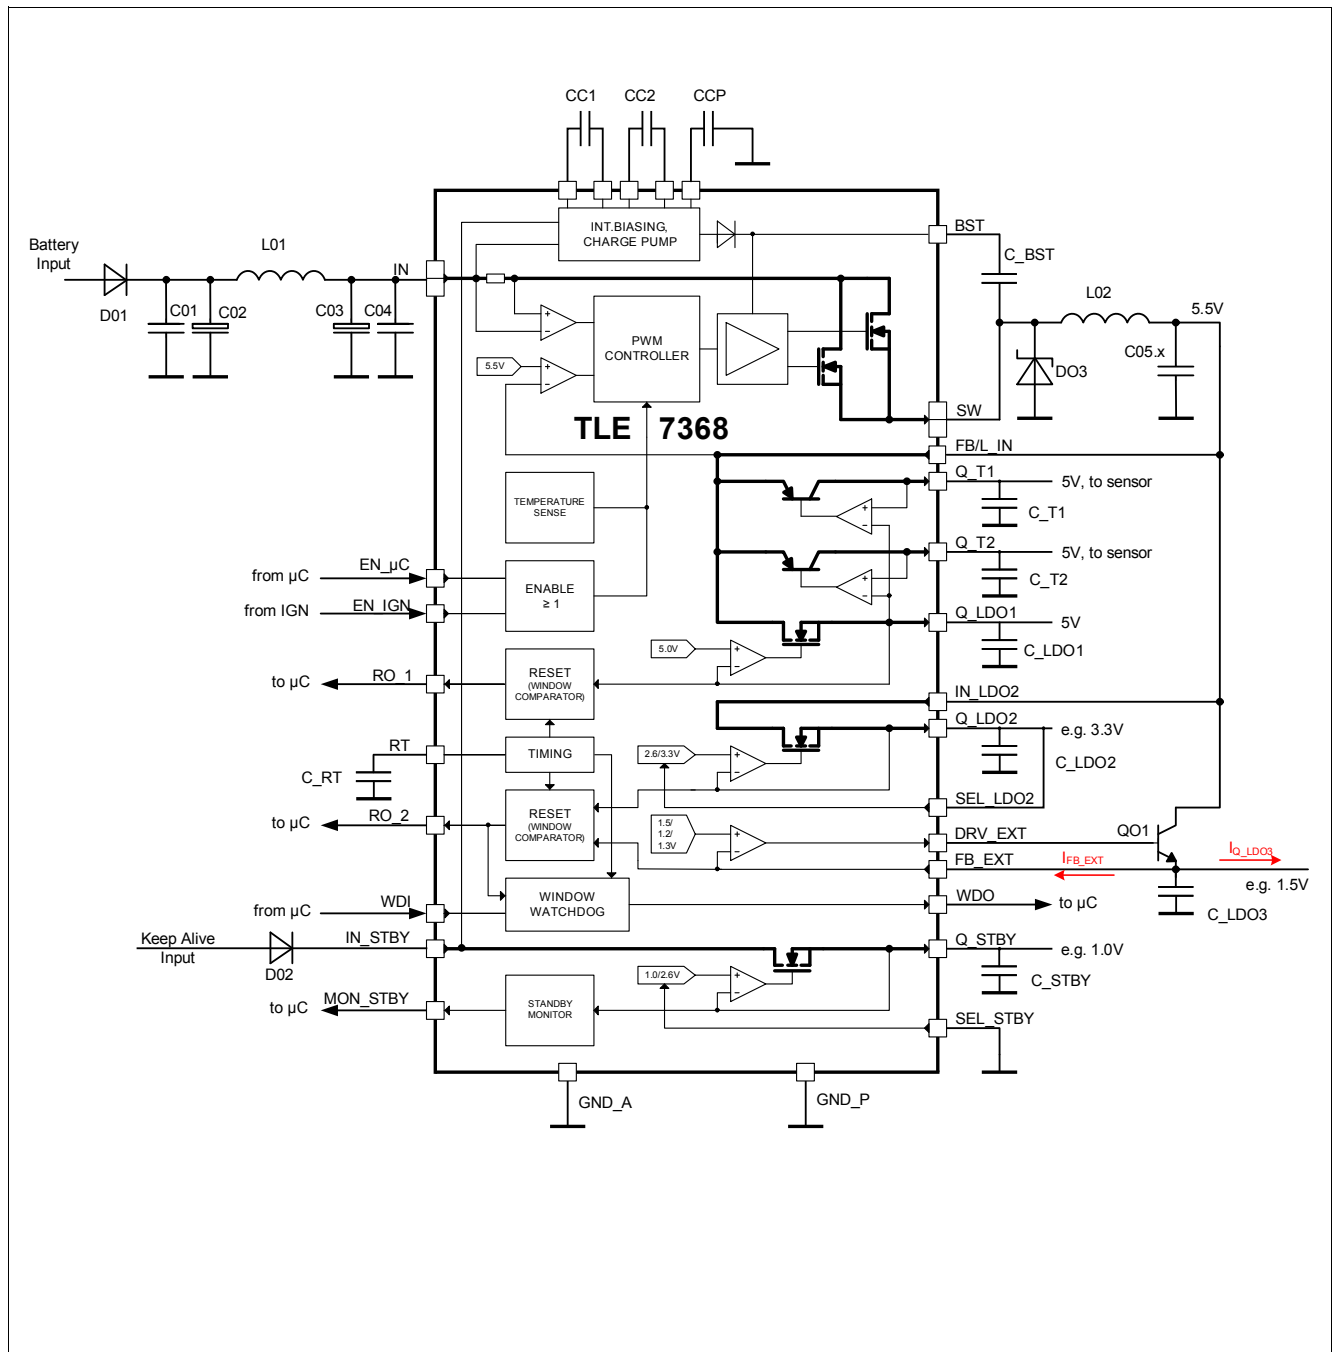

Figure 10 Application Diagram, Example
- 2) Tested according to measurement figure 10, application diagram